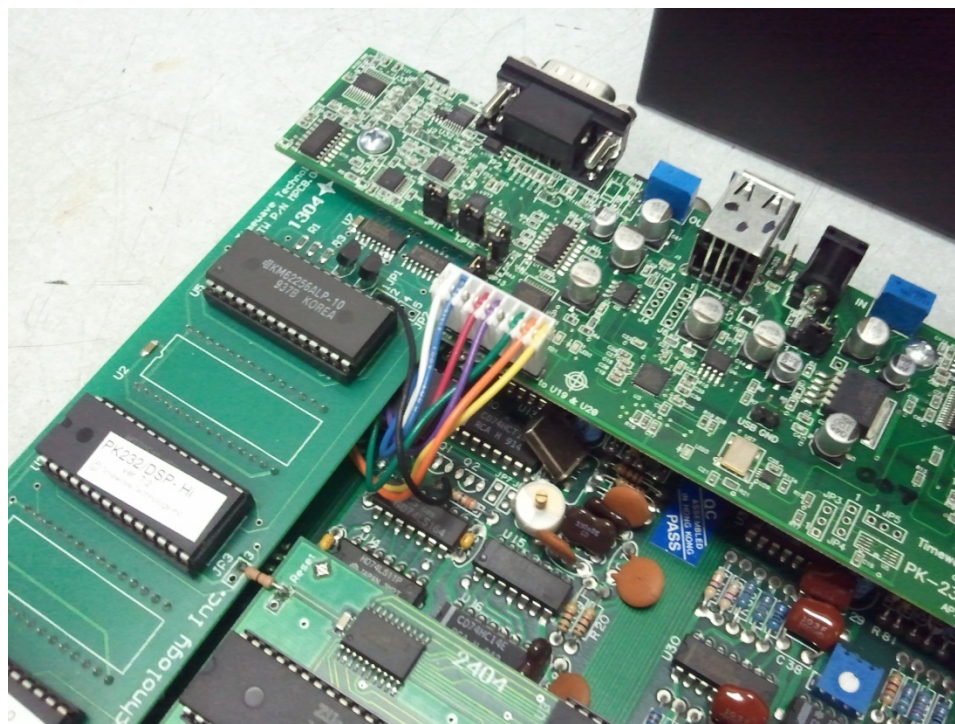
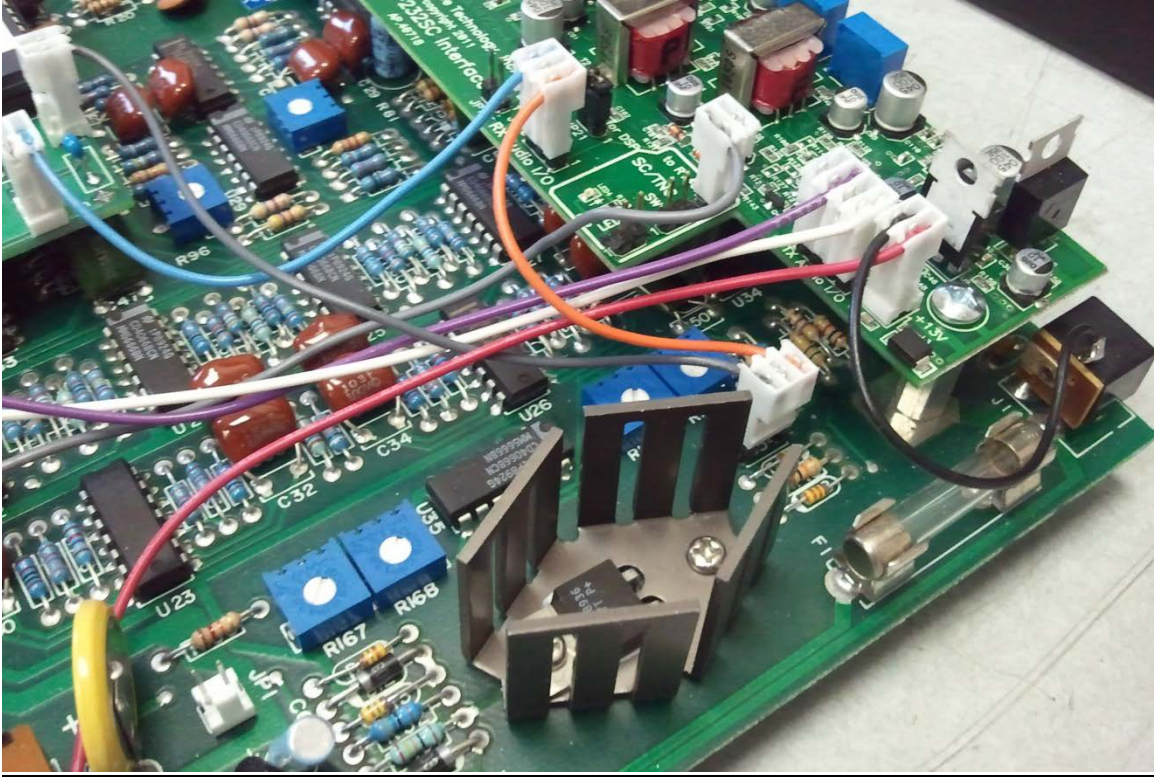

Fig 13 - SC board connected to main board with MBX board
Fig 14 - SC board connections to main board with MBX board
- ___ **9) Plug all the connectors into the corresponding connectors on the SC board. See Figure 13, Figure 14 & Table 1.**